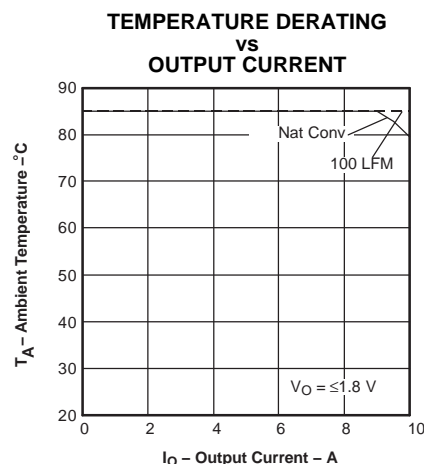

Figure 8.
- (2) SOA graphs represent the conditions at which internal components are at or below the manufacturer's maximum operating temperatures. Derating limits apply to modules soldered directly to a 4 in. × 4 in., double-sided PCB with 1 oz copper. For surface mount products (AS and AZ suffix), multiple vias (plated through holes) are required to add thermal paths around the power pins. Please refer to the mechanical specification for more information. Applies to Figure 8.
- (3) The peak-to-peak output ripple voltage is measure with an external 10 μF ceramic capacitor on the output.